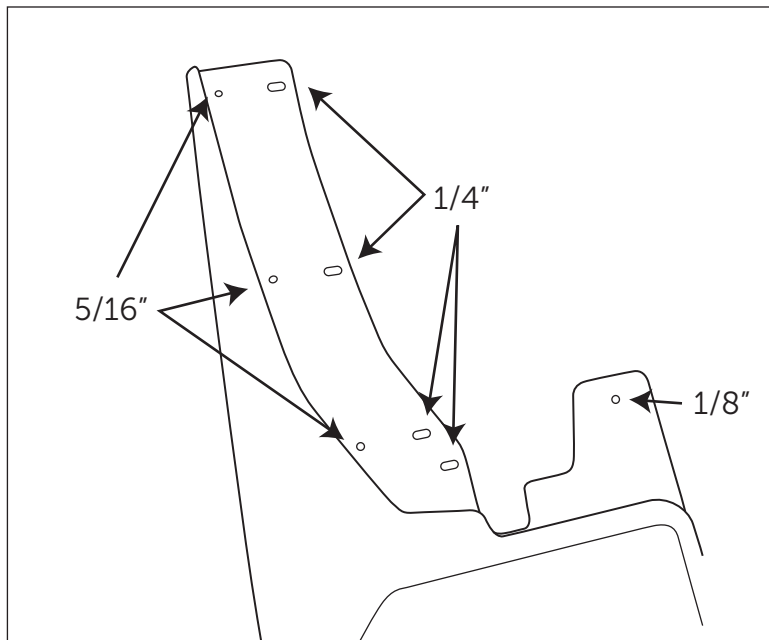

Figure 3
5. Drill out four 5/16" holes and four 1/4" holes along the bolt pattern in the AEV Front Splash Guard (fig. 3).